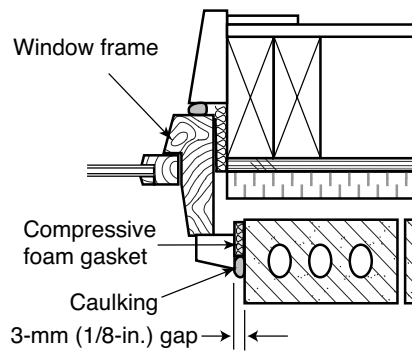

FIGURE 23
- ◆ Brick expands with moisture absorption while framing shrinks. Leave a 3-mm (1/8-in.) gap at the sides of the frame, 6 mm (1/4 in.) under the sill and 10 mm (3/8 in.) under second-storey sills. If a sloped brick sill is used, allow additional space under the window. Caulk all gaps and back caulking with a compressive foam gasket (see Figure 23).